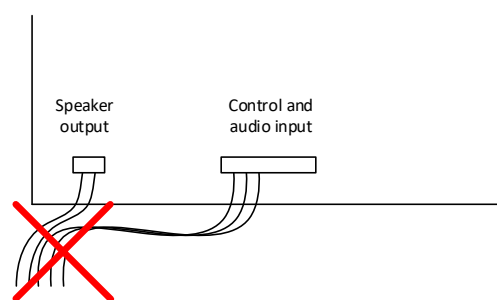

Figure 25: Wire bundling
- Do not bundle mains wires together with other cables (Figure 25).
- Do not bundle speaker wires together with other cables (Figure 25).